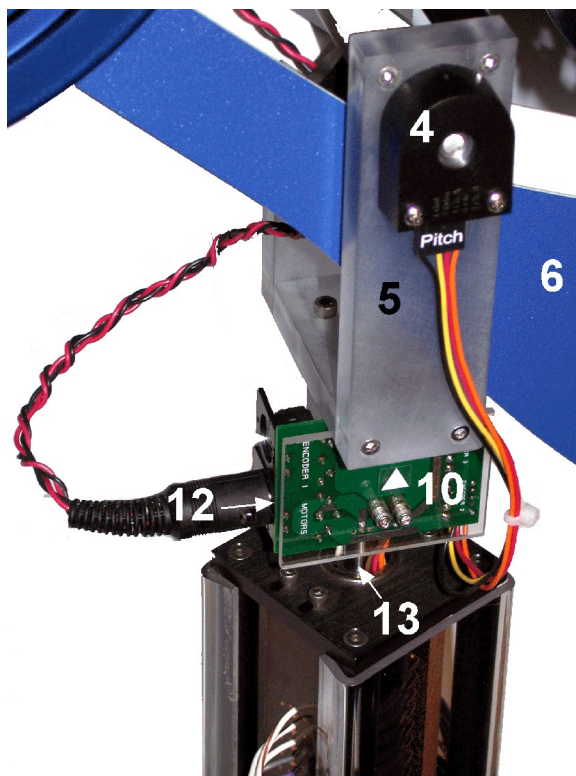

Figure 3: 2 DOF Helicopter yoke components.
3. Connect the 6-pin-DIN to 6-pin-DIN motor cable protruding from the helicopter body to the connector labeled “MOTOR” on the helicopter circuit, component #12 shown in Figure 3.